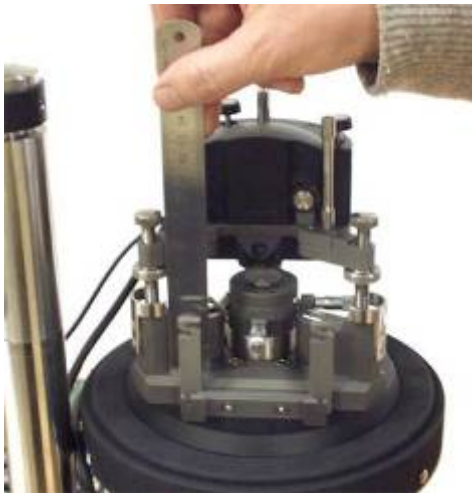

Fig. 2-111
- It's necessary to measure the distance between the base of measuring head and the plane of universal stage near to each of three supports, for example, as it's shown on Fig. 2-111;